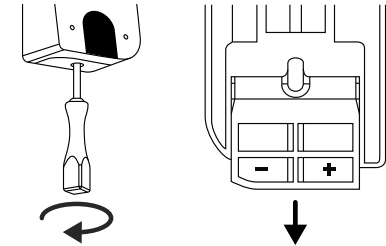

Fig. 3
- ③ Remove the screw from the bottom of the keypad using the Tx8 screwdriver supplied with the keypad and pull the battery compartment downwards (Fig. 3).